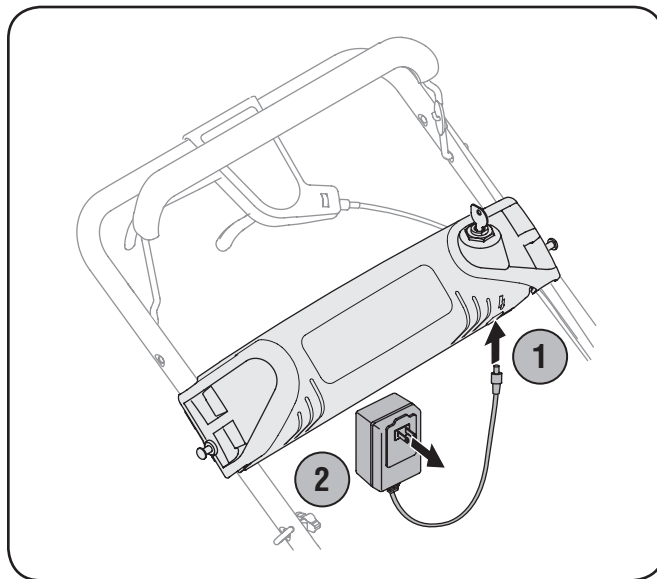

Figure 7-4
1. Plug the battery charger into the port on the underside of the battery housing. See Fig. 7-4.